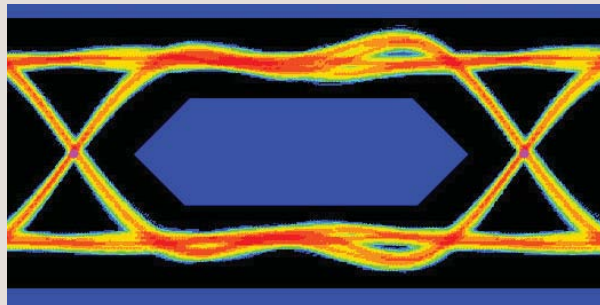

Figure 7. Example of an eye diagram.
The eye diagram (see Figure 7) is built up by overlaying the waveform traces from many successive unit intervals (UI). Eye diagrams display serial data with respect to a clock recovered from the data signal using either hardware or software tools. The diagram displays all